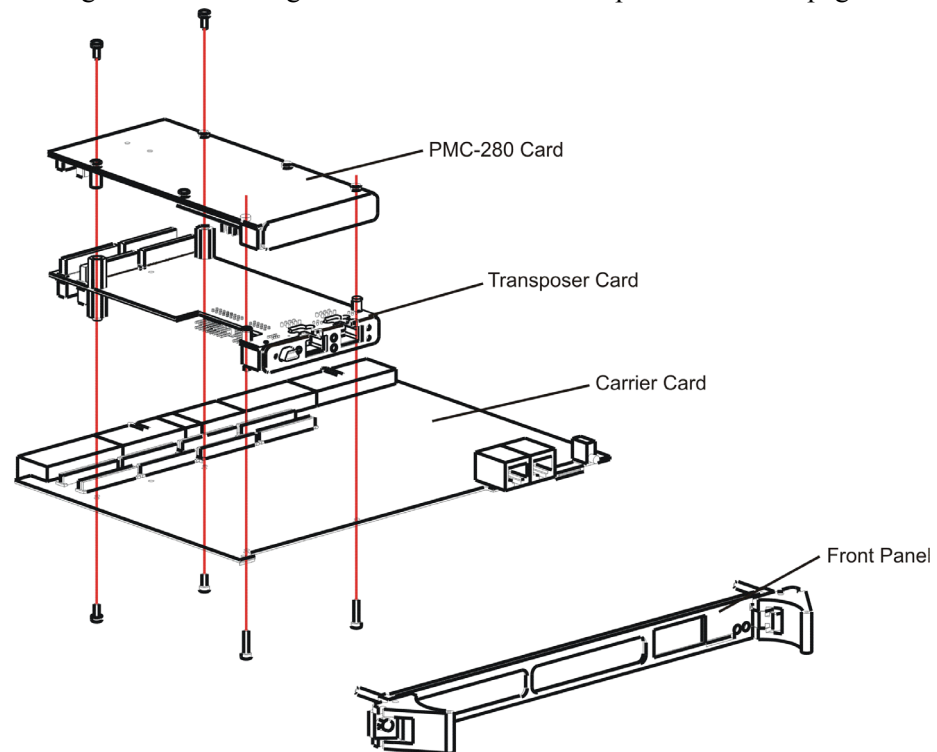

Figure 15: *Installing PPMC-280 Card on Transposer Card*
7. Mount the PPMC-280 card on the PMC-270 Transposer card as shown in Figure 15 “Installing PPMC-280 Card on Transposer Card” on page 2-18.